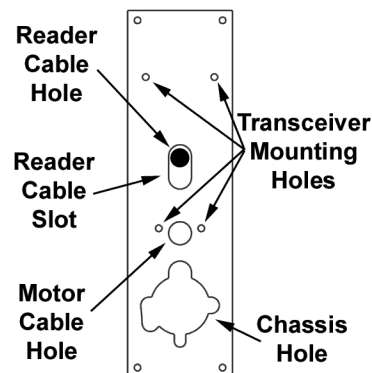

Figure 2-14 – Transceiver Scar/Push Plate
- 2.5.1.2.12 If the door does not have the 2 1/8" Chassis Hole already drilled, place the Transceiver Scar/Push Plate, so that the center of the Chassis Hole (Figure 2-14) in the Transceiver Scar/Push Plate is centered over the intersection of the horizontal line drawn in Section 2.5.1.2.1 and the 2 3/4" setback line drawn in Section 2.5.1.3.2.
- 2.5.1.2.16 Using the Transceiver Scar/Push Plate as a template, drill or route out the door around the 2-1/8" Chassis Hole (Figure 2-14).
- 2.5.1.2.17 Using the Transceiver Scar/Push Plate as a drill jig, drill four 9/64" Transceiver Mounting Holes in the door (Figure 2-14).
- 2.5.1.2.18 Using the Transceiver Scar/Push Plate as a drill jig, drill a 3/4" Reader Cable Hole in the door at the **top end of the Reader Cable Slot** (Figure 2-14).
- 2.5.1.2.19 Using the Transceiver Scar/Push Plate as a drill jig, drill a 3/4" hole in the door Motor Cable Hole (Figure 2-14).